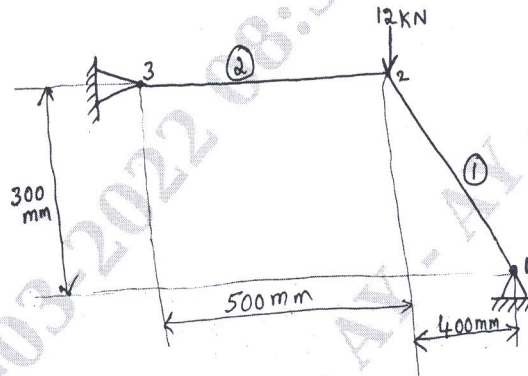

Fig Q6(b)
b. For the two bar truss shown in Fig Q6(b). Determine the nodal displacement and stresses in each element. Take $E = 2 \times 10^5 \text{ N/mm}^2$; $A = 200\text{mm}^2$